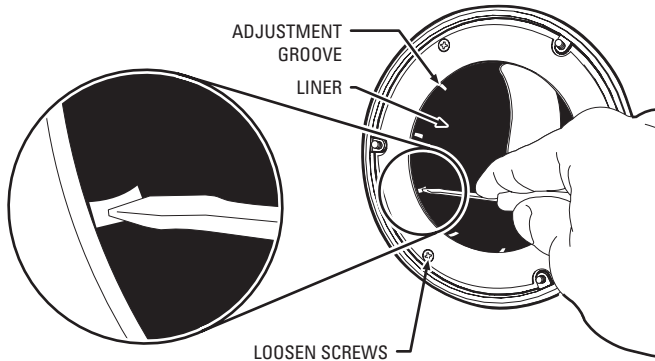

Figure 15. Adjusting the Liner
1. Adjust the liner if installed (refer to Figure 15):